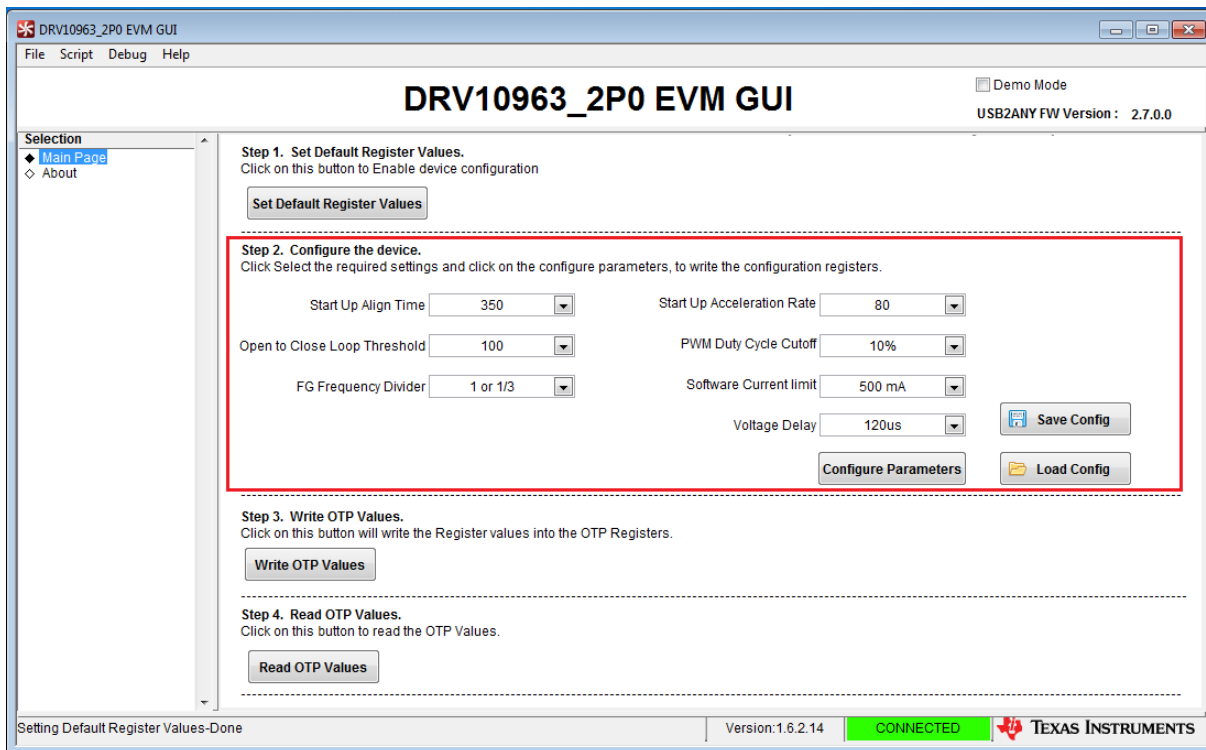

Figure 6. Default Configuration Parameters
3. Left-click on the step 1 button "Set Default Resister Values". Step 1 is always mandatory before proceeding to step 2 to enable configuration of the device. This step programs the following parameters to the corresponding shadow register, as shown in Figure 6. These default values correspond to the factory programmed part DRV10963JJ. Refer to the DRV10963 datasheet for a detailed explanation of different versions of DRV10963 and descriptions of tunable parameters.